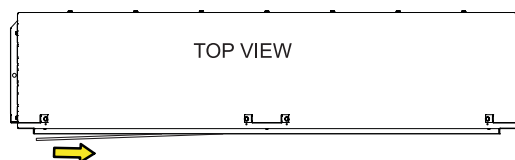

Figure 45
3. Replace the glass front into the fireplace by placing the right side into the slots in the firebox. Carefully angle in the left side of the glass and then slide the glass to the left. Settle the glass into the slots by gently lowering it. **See Figures 45 - 48.**